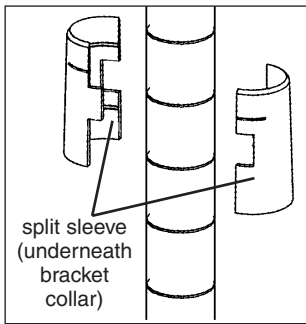

figure 3
- Snap plastic split sleeve onto post at desired shelf height (the wider part of the taper on the split sleeve is the bottom - see *figure 3*). Leave enough room at the bottom of the post for the wall bracket to hang.